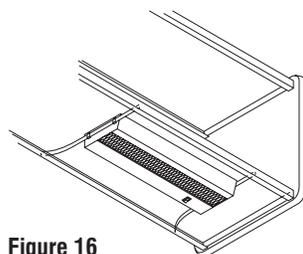

Figure 16
4. Flex rear of task light brackets outward until brackets will pass over rear lip of shelf bottom and slide in place (Figure 16).